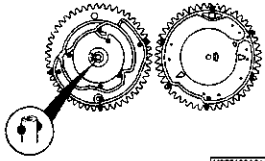

Fig. 2-21-2
- 1 Apply GREASE (MULTEMP SH-A) to the area specified in Fig. 2-21-2 on the new CAM GEAR (TU).